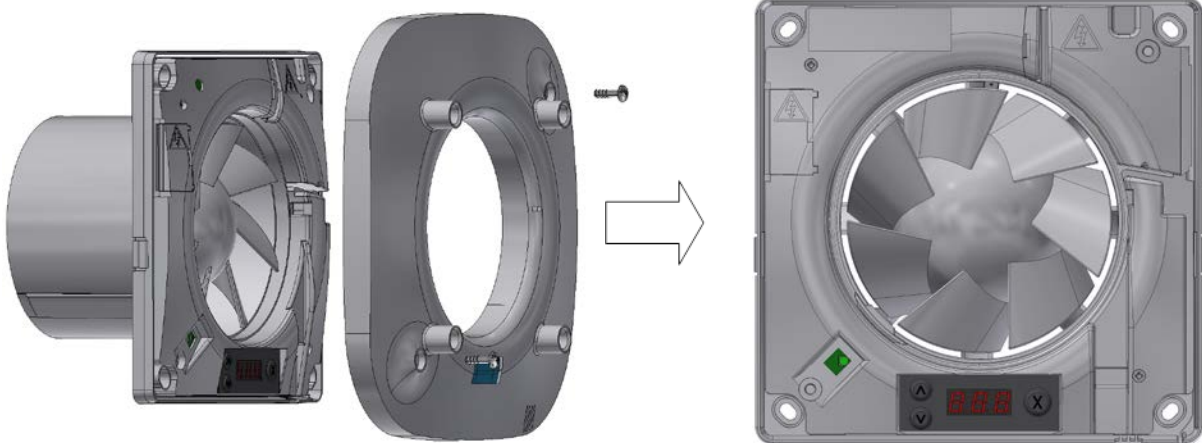

**Fig.4** Removing the grille for wiring and setting the controls
To configure the fan first remove the grille. With the grille removed the control buttons are visible (Fig.4). Do NOT isolate the fan from the power supply as configuration requires power to the fan.
**Do NOT** attempt to remove the circuit board cover (Fig.4). This covers the high voltage power supply, preventing the risk of an electric shock.
2. Carefully pull the front panel off the inner grille. (fig. 4)